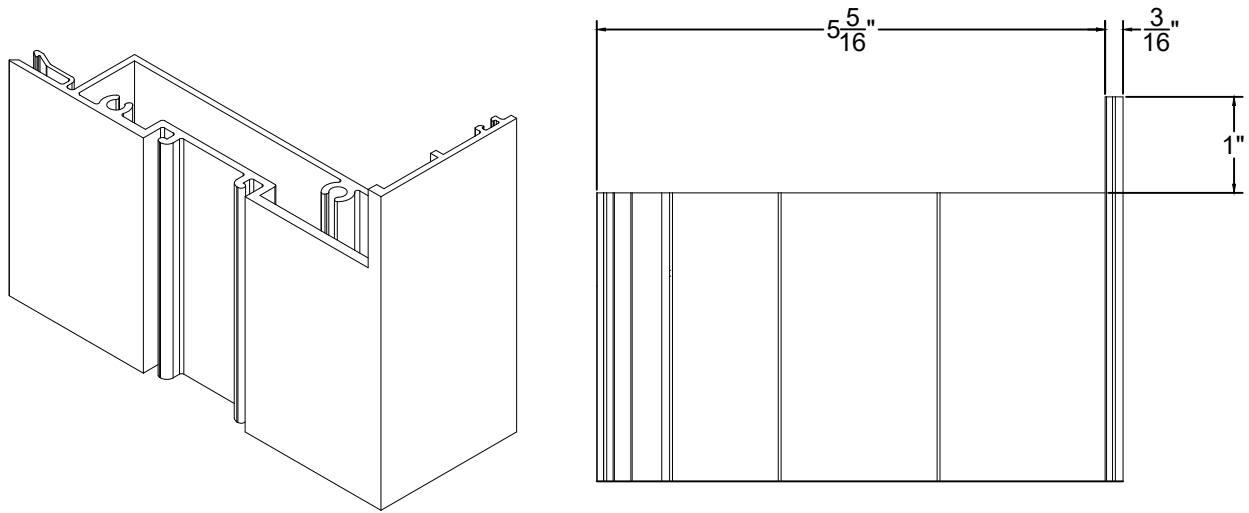

Fig.10.1
- A. Door jambs are coped at factory to fit around the wall condition at the head. See figure 10.1.